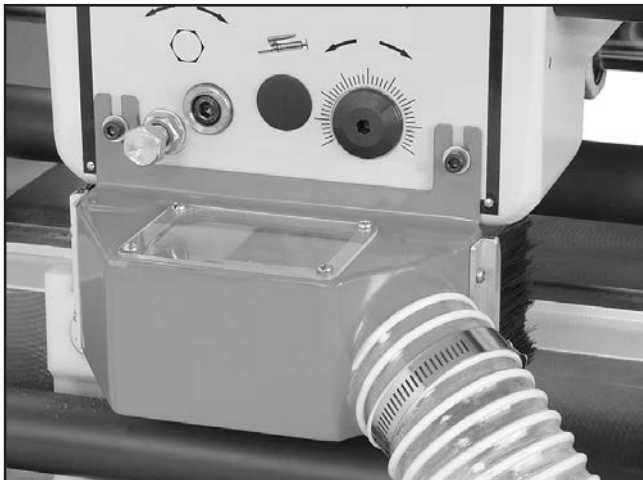

Figure 10. Guard attached to machine.
2. Attach the guard to the front of the machine, as shown in Figure 10.